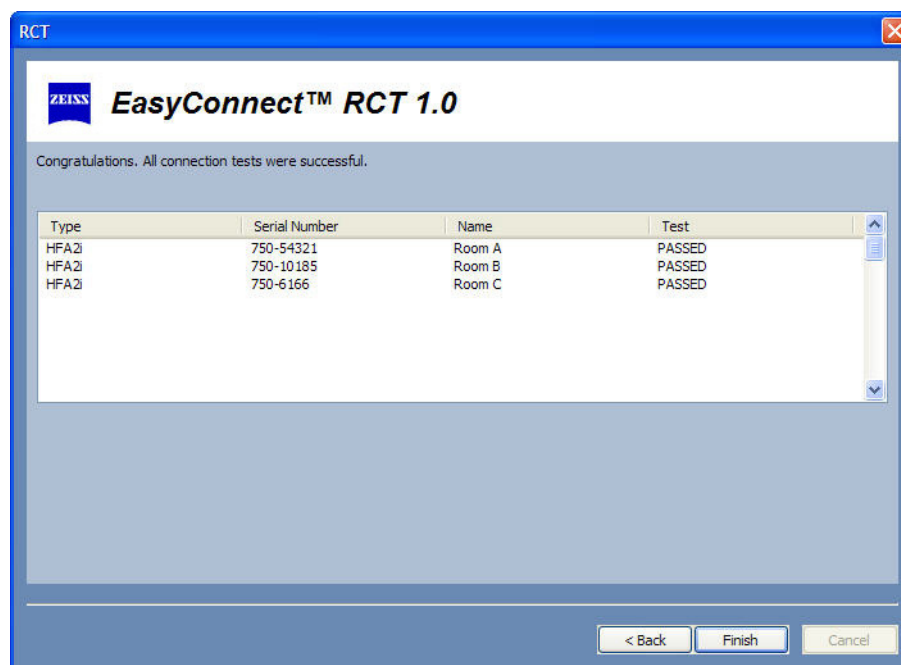
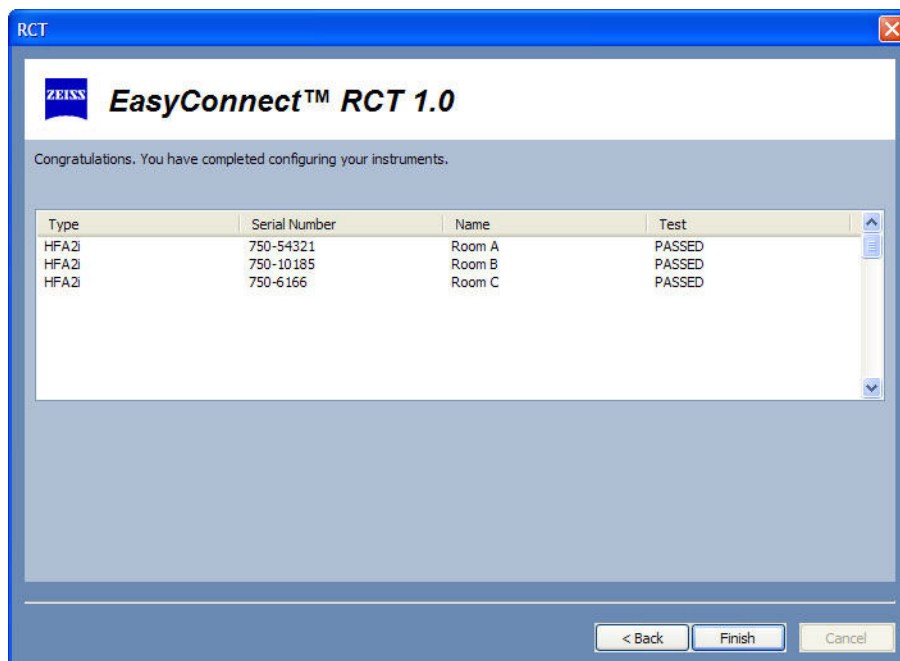
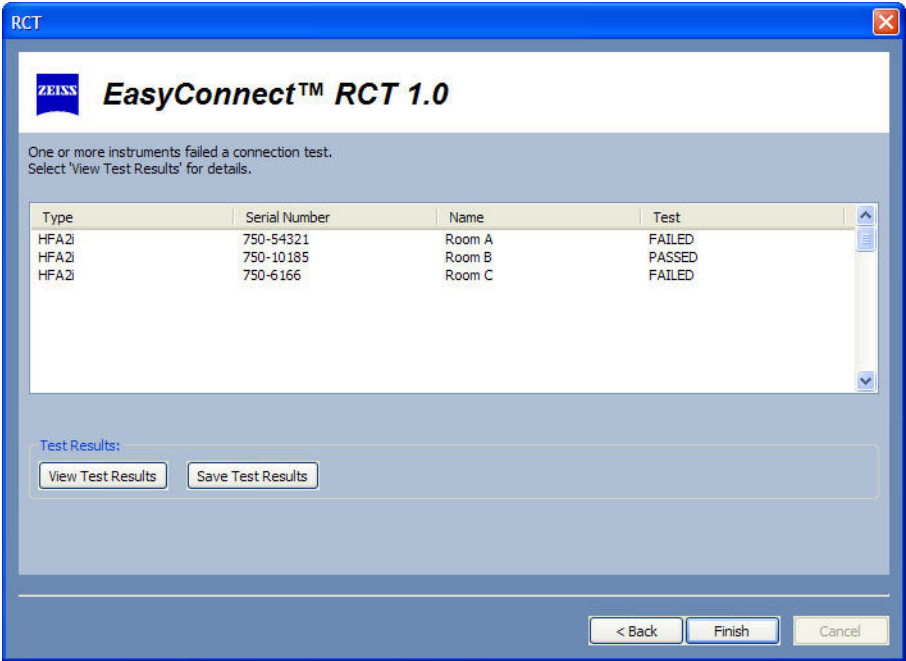

Figure G.50 Completion Screen in Test Mode (Pass)
Figure G.51 Completion Screen in Easy, Copy, or Custom Mode (Pass)
Figure G.52 Completion Screen (Fail)
- 4 After connection tests have been completed for all configured instruments, select NEXT to continue to a final Completion screen where the results of all tests will be displayed (Figure G.50, Figure G.51, and Figure G.52).